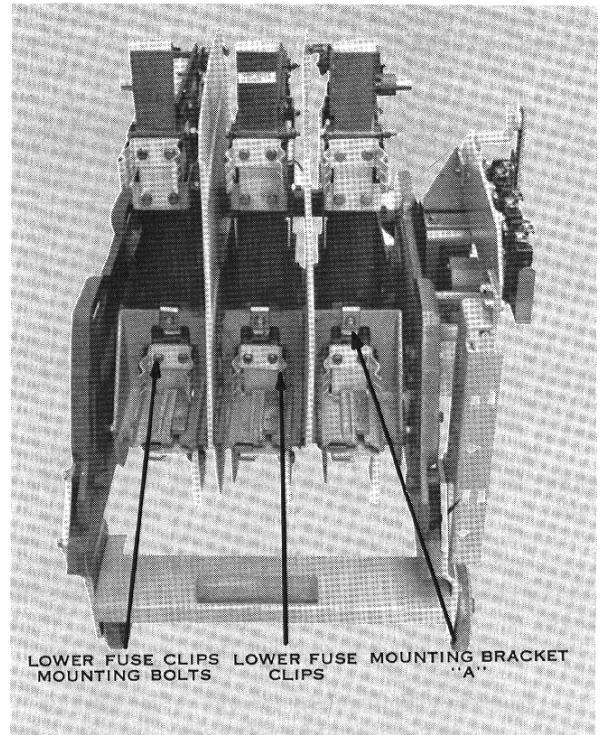

Fig. 25. IC2814E250 contactor
2. Remove the bolts that mount the lower power fuse clips and mounting bracket "A" as shown in Fig. 25.